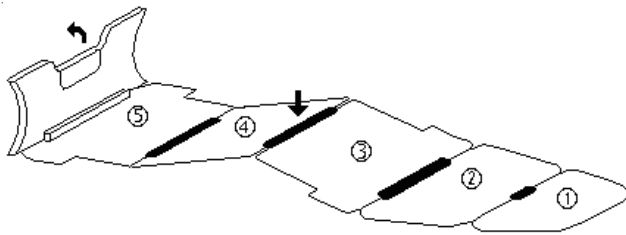

Fig.9
6.8. Apply the force to the segments No.3 and No.4 connecting zone from top to bottom as shown in the figure 9 and place the boarding in its proper position. Thereat, make sure that the segment edges stay within the removable stops. In order to facilitate this process, have an assistant to pull the transom to the boat stern part simultaneously with applying pressure to the joint of segments No.3 an No.4.